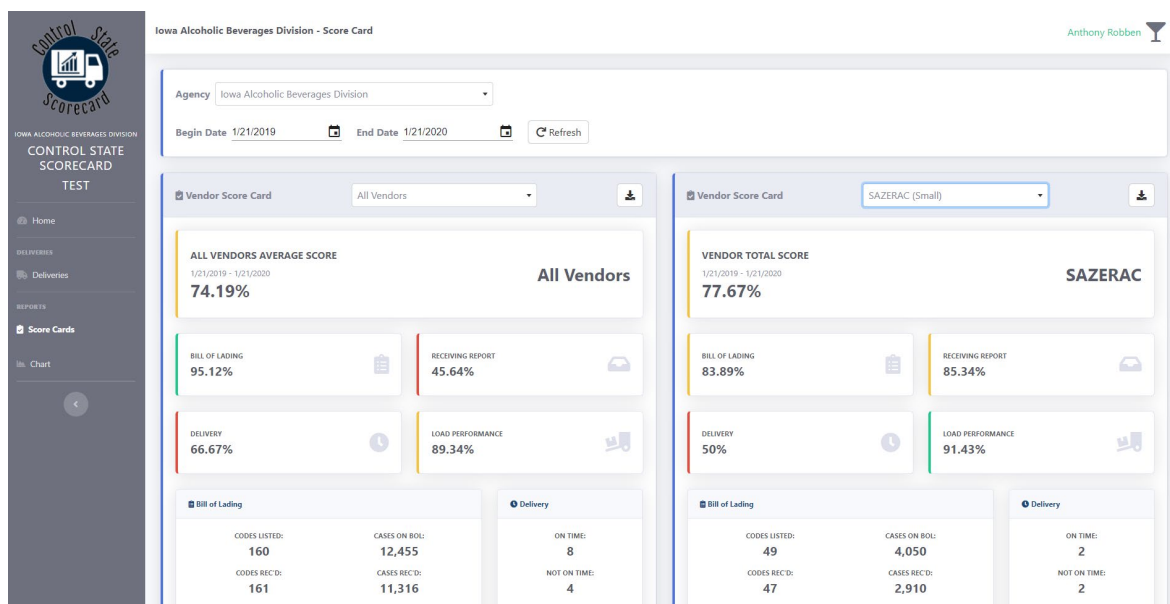

Figure 2; Scorecard
- **Scorecard Selection:** A user must select the state they wish to view the scorecard of. The scorecard is only a representation of submitted deliveries and not deliveries in progress (see Figure 2).